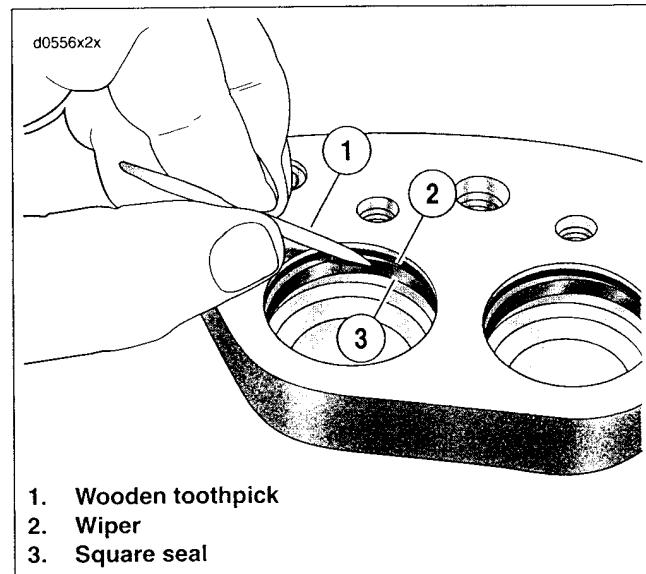

Figure 2-82. Wipers and Square Seals
7. See Figure 2-82. Using a wooden toothpick (1), remove a wiper (2) and square seal (3) from each caliper bore. Discard all removed parts.
2. See Figure 2-82. Install a new square seal (3) and a new wiper (2) into each piston bore.